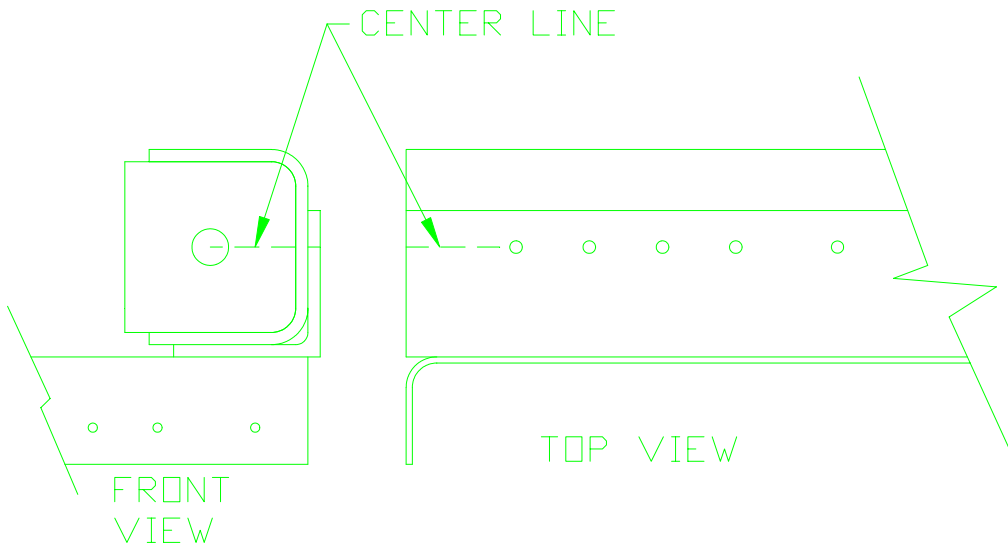

FIGURE 16
23) On each 1 ½ x 1 ½ x 1/8 angle holding, the engine mount brackets and engine mount fittings, draw a line center to the engine mount fitting hole. Figure 16.